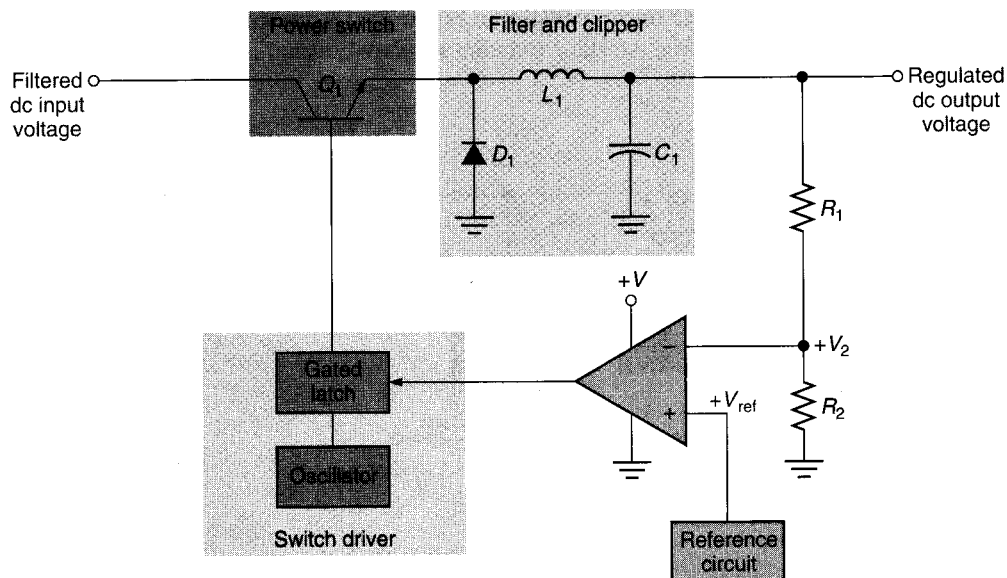

FIGURE 21.19 Basic switching regulator.
**OBJECTIVE 12** ► The basic switching regulator in Figure 21.19 is divided into four circuit groups.
At this point, you should have a pretty good idea of how the switching regulator in Figure 21.19 operates. To complete the picture, we need to take a closer look at the operation of the *switch driver* and the means by which it controls the conduction of the power switch.
The regulator shown in Figure 21.19 has the following values:  $V_{in} = 24 \text{ V}$ ,  $T_{on} = 5 \mu\text{s}$ , and  $T_{off} = 10 \mu\text{s}$ . Calculate the dc average of the load voltage.
A regulator like the one shown in Figure 21.19 has the following values:  $V_{in} = 36 \text{ V}$ ,  $T_{on} = 6 \mu\text{s}$ , and  $T_{off} = 9 \mu\text{s}$ . Calculate the value of  $V_{ave}$  for the circuit.